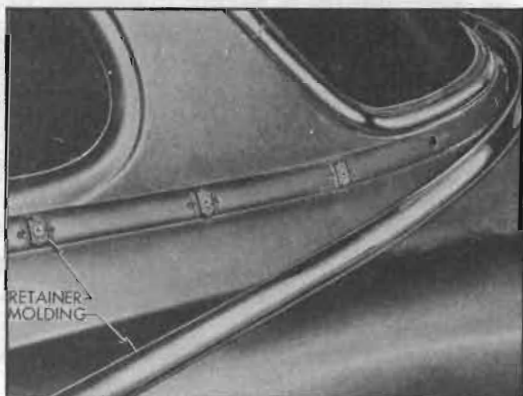

Figure 13-22—Belt Molding Snap-On Retainers
3. Except on *Style "19"* body, carefully detach front portion of belt molding sections from the snap-on retainers along each rear quarter outer panel, and remove molding. Use care to avoid bending molding or damaging adjacent body finish. See figure 13-22.